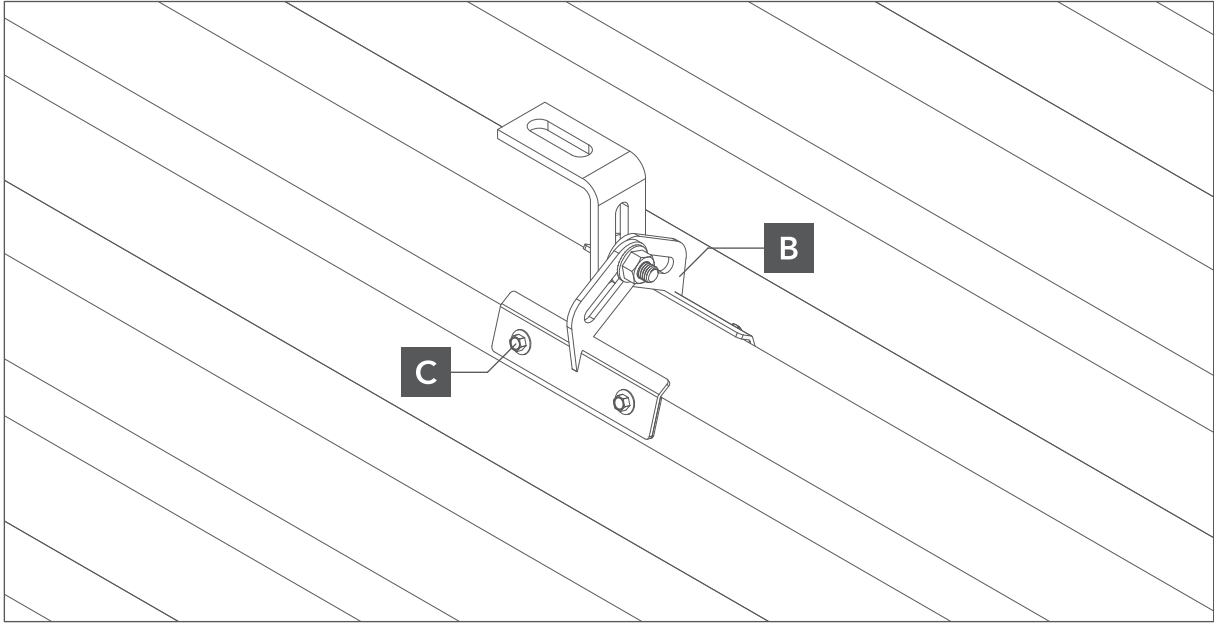

Fig. 4. fastening of the trapezoid holder
- 3** The trapezoidal holder is fastened to the roof plate with four screws with a tight thread (Fig. 4).